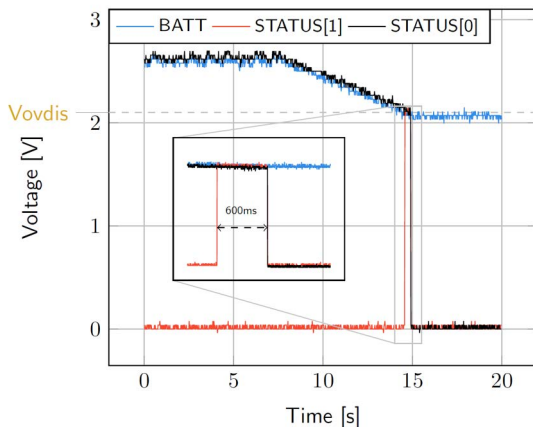

Figure 4: LDOs disabled around 600 ms after *BATT* reaches V_{OVDIS}
- `BATT`: Voltage decreases as the system consumes the power accumulated in the storage element. The voltage remains stable after crossing V_{OVDIS} (see Figure 4).
- `STATUS[0]`: De-asserted when the LDOs are no longer available as the storage element is running out of energy. This happens 600 ms after `STATUS[1]` assertion (see Figure 4).
- `STATUS[1]`: Asserted for 600ms when the storage element voltage (`BATT`) falls below V_{OVDIS} (see Figure 4).